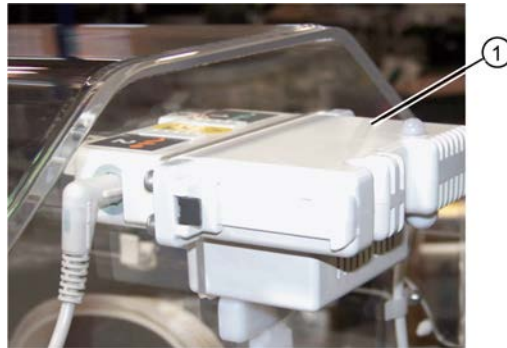

Fig. 32 View of sensor module, partially slid out
- 8 When the display prompts you the message slide out sensor module, slide the sensor module (Fig. 32/1) partially out of the hood, until it stops.